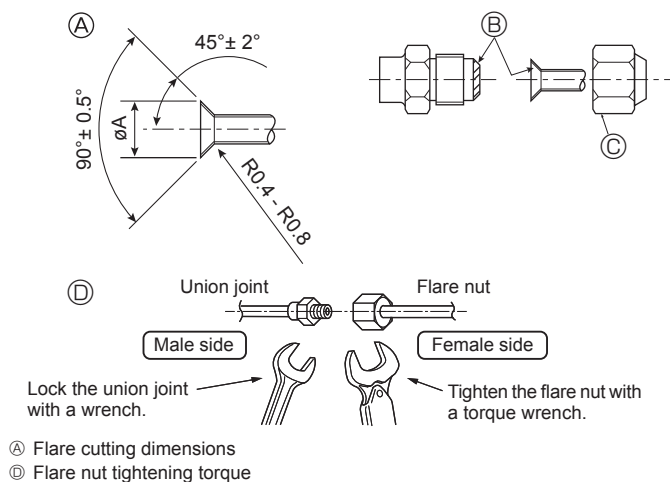

Fig. 4-6
Ⓐ (Fig. 4-6)
Ⓓ (Fig. 4-6)
4.4. Connecting pipes (Fig. 4-6)